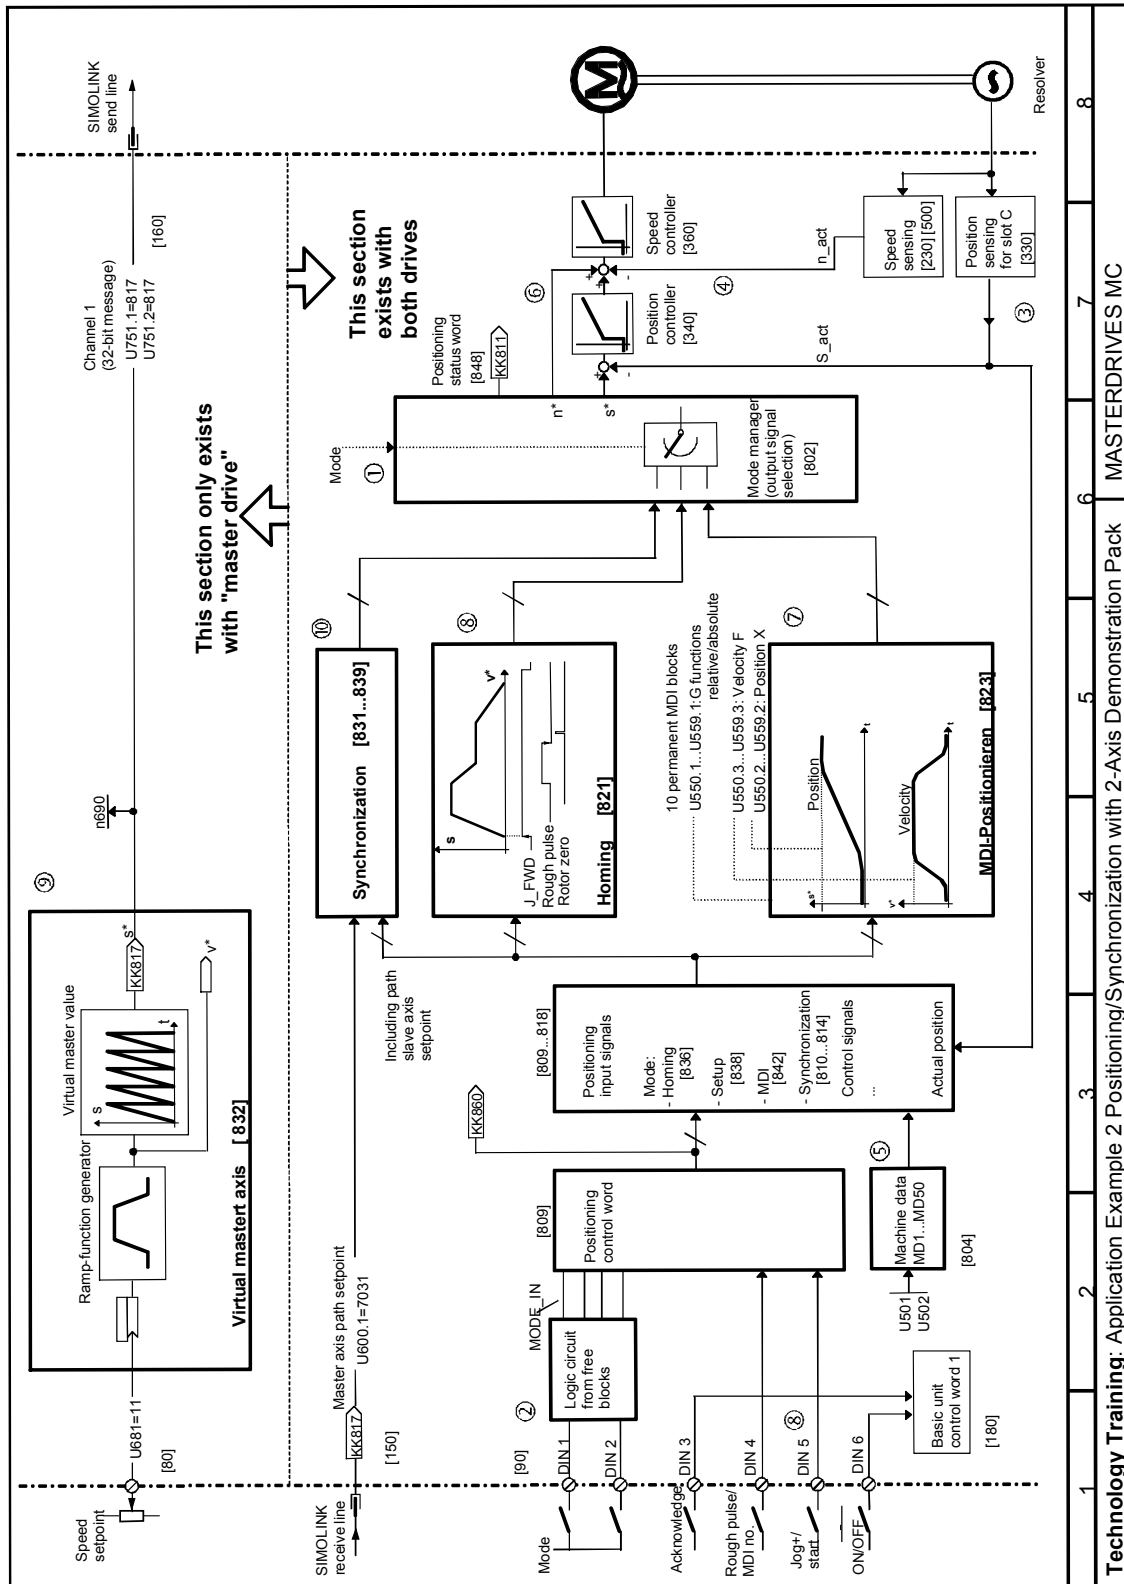

Fig. 9-47
The overview diagram in Fig. 9-47 shows how the technology functions are interconnected.
Fig. 9-47 shows the digital input assignments used in this example ②. The assignment of functions to individual terminals used here is arbitrary. The BICO technology (connector/binector technology) allows virtually any terminal wiring to be implemented.